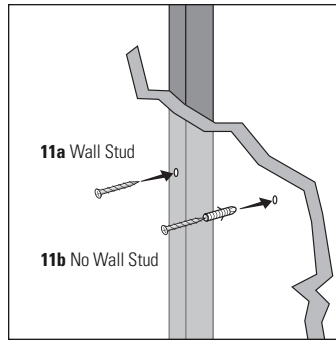

FIGURE 11a & 11b: Use #10 screw for wall stud, use #10 wall anchors and screw for no wall stud.
- If you are certain there is a stud behind the wall surface, drive #10 screws (not included) through the wall and into the stud [figure 11a].